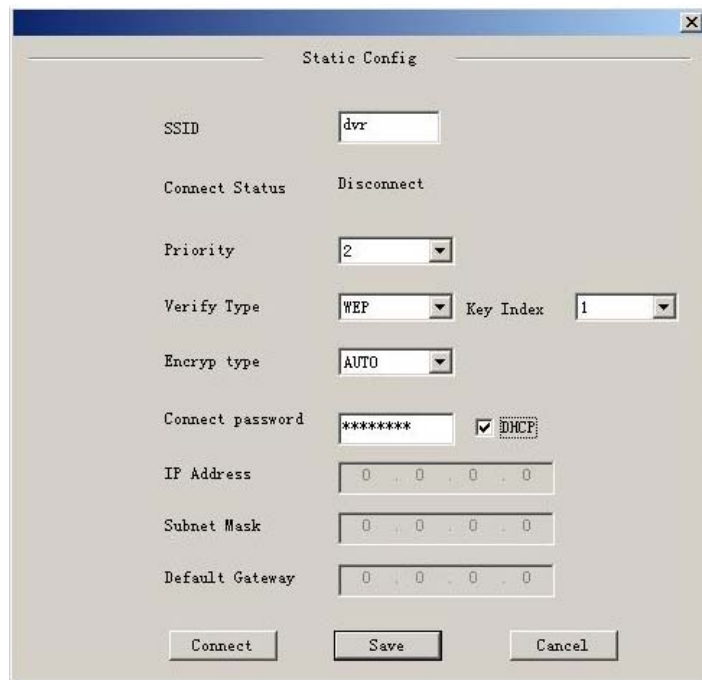

Figure 7-60
In Figure 7-58, click the Static setting button; you can go to the following interface. See Figure 7-60. You can set the hotspot according to your actual requirements.
- On the static setting interface (Figure 7-60), only the hotspot of WEB authentication mode can supports key-index.